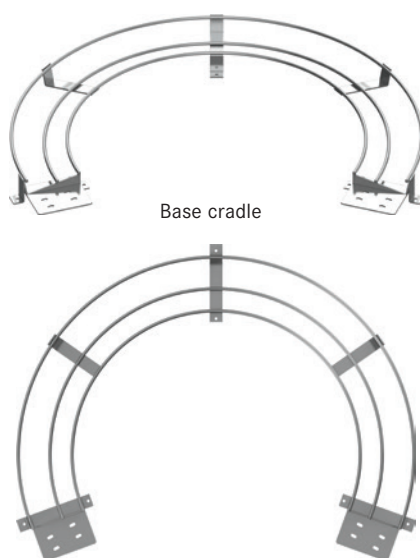

Fig. 2
- Base cradle (**Fig. 2**), that functions as a channel guide in linear movement and guides the lower part of the cable chain.